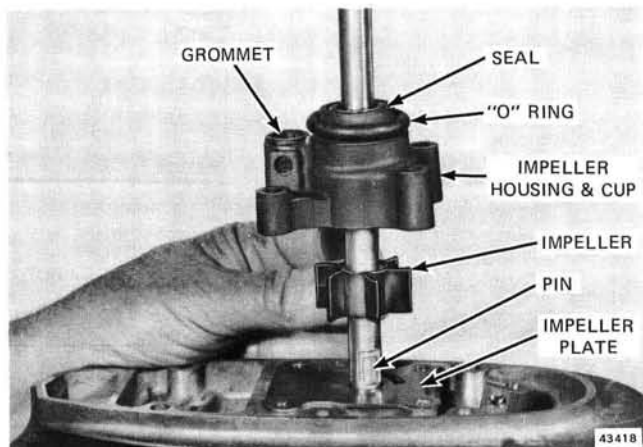
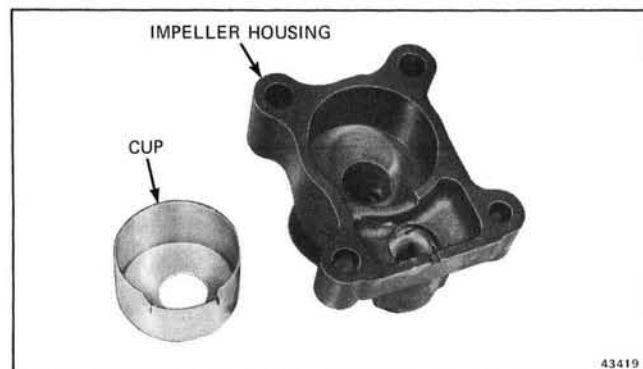

Figure 6-23. Removing Water Pump
Figure 6-24. Impeller Housing Cup
3. Remove driveshaft "O" ring, four screws and lift impeller housing, cup, impeller, pin, and impeller plate from gearcase. See Figure 6-23. Remove cup from impeller housing. See Figure 6-24.
16. Remove and discard impeller housing seals and grommet. See Figure 6-23.